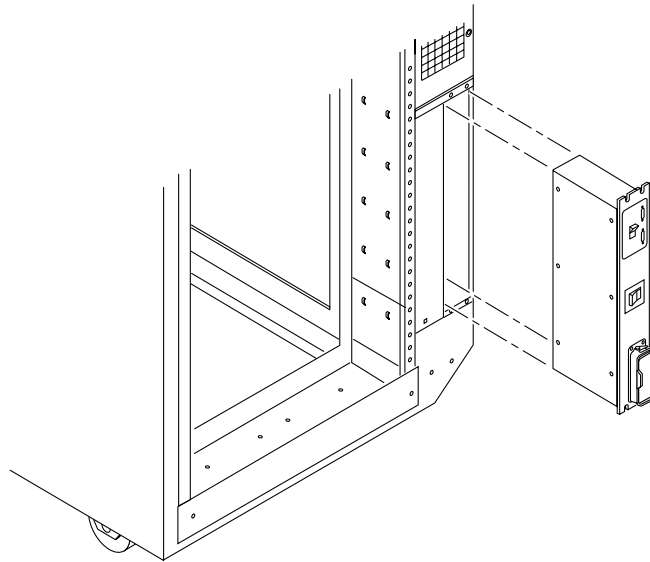

FIGURE 5-5 Removing and Replacing the Power Sequencer
5. **Remove the four screws that secure the sequencer to the chassis (FIGURE 5-5).**
1. **Tilt the power sequencer inward and seat the bottom in the chassis opening (FIGURE 5-5).**